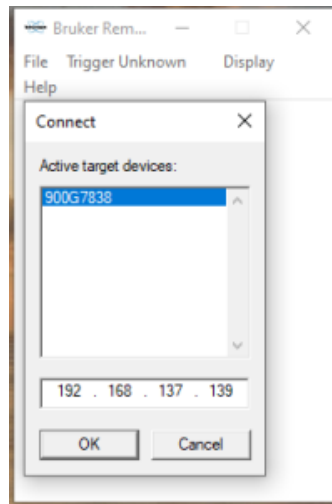

Figure 3. Connecting the device to the computer.
4. Go to **File**  **Connect**. A window will appear that will show the device number Ex. 900G7838. Select it and click Ok (Figure 3).